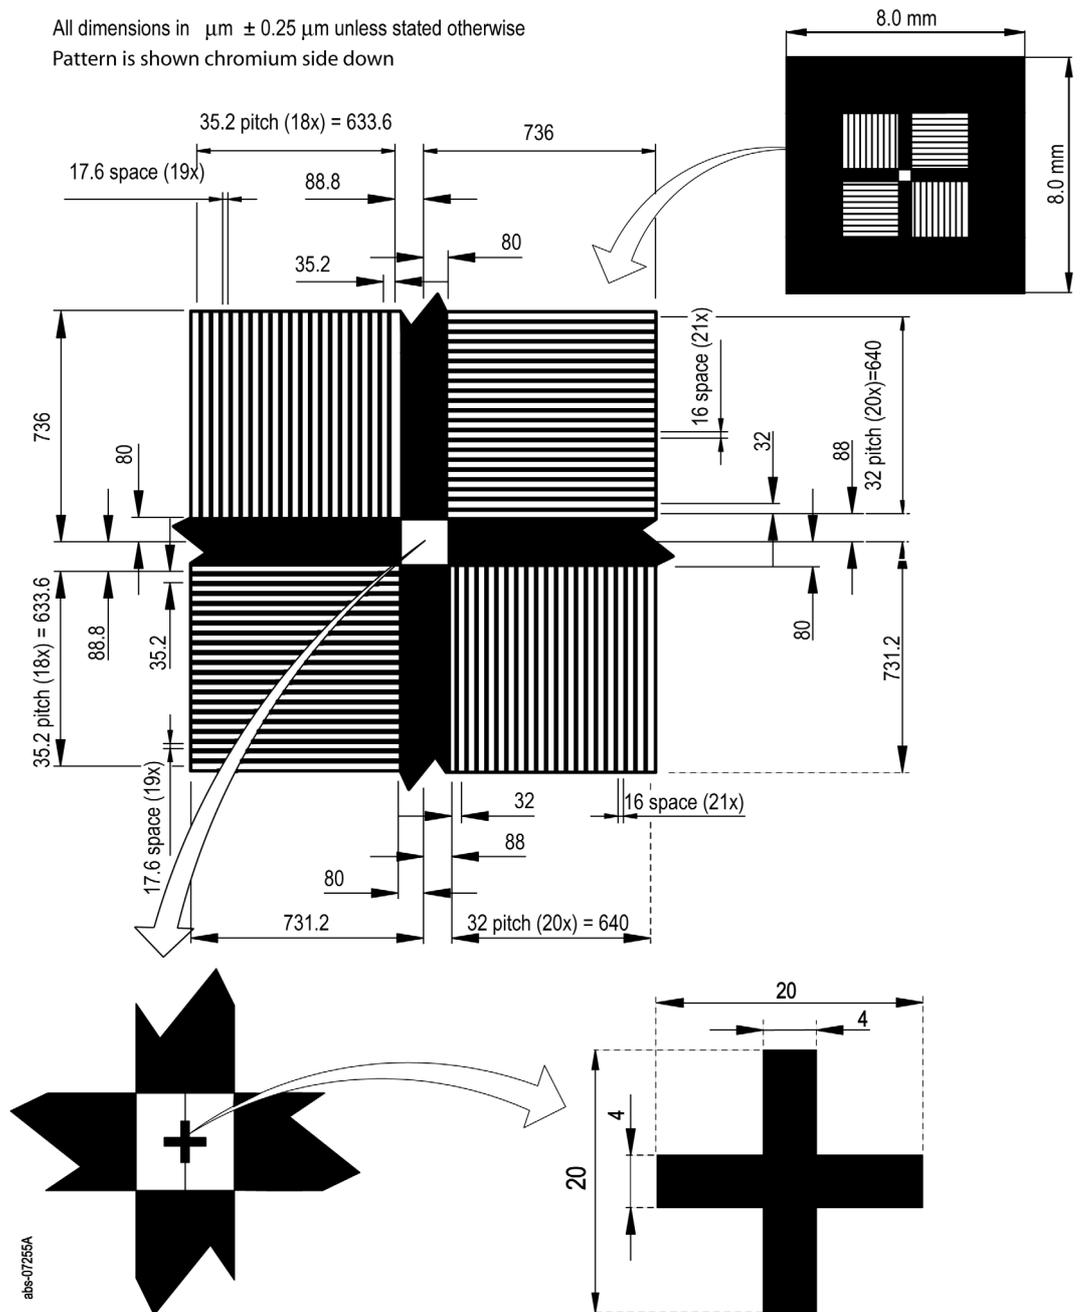

Figure 3.2 The reticle alignment mark
The reticle alignment mark (MA) for PAS 5500 is a square pattern, subdivided into four quadrants (see Figure 3.2). There are two vertical and two horizontal gratings, with one grating in each quadrant. In two of the gratings (one horizontal and one vertical) the grating period is $32\ \mu\text{m}$ and in the other two the period is $35.2\ \mu\text{m}$. The duty cycle of the gratings must be 50% ($\pm 25\%$).
The mark must have a dark (chromium) background with an area of at least 8.0 mm x 8.0 mm centered around each alignment mark. In Figure 3.2 all dimensions are in $\mu\text{m} \pm 0.25 \mu\text{m}$ unless stated otherwise. The pattern is shown with chromium side down. For the location of the marks on the reticle, See “Reticle Layout \(4x reduction\)” on page 51.